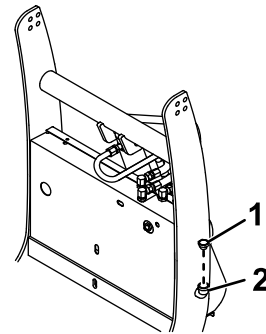

Figure 29
2. Clean the area around the fill cap (Figure 29).
3. Remove the fill cap from the hydraulic reservoir (Figure 29).